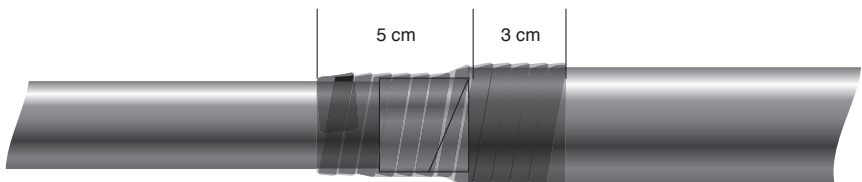

Figure 24.
8. Over wrap back towards the crimp end of the cable, again stretching the tape and with 50 % overlap, leaving 5 cm covering the outer copper screen tape and black insulation and 3 cm covering the black outer sheath. This should use approximately another 50 cm of the tape. Wrap another 2 layers, again stretched with 50 % overlap back up to where the black outer sheath ends, to build up the cable diameter and to smooth out transitions in diameter Figure 24. Cut the tape and press down firmly to ensure it amalgamates with the tape below it.